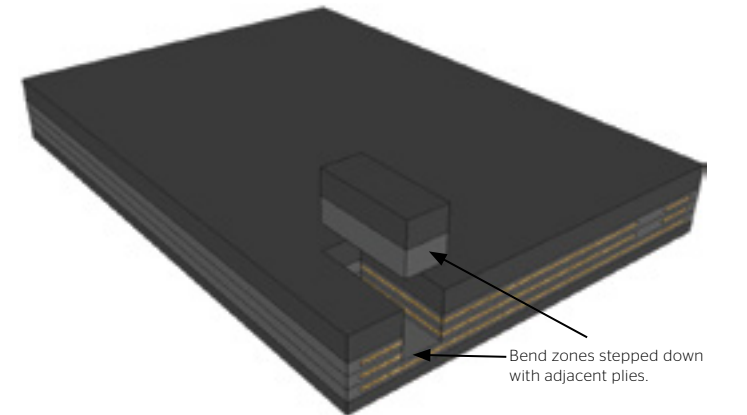

Fig. 8-3
7. Although not necessarily recommended, the bend zones may be removed and replaced with inside rubber and a breaker over top, then cover rubber. Refer to Fig. 8-3.